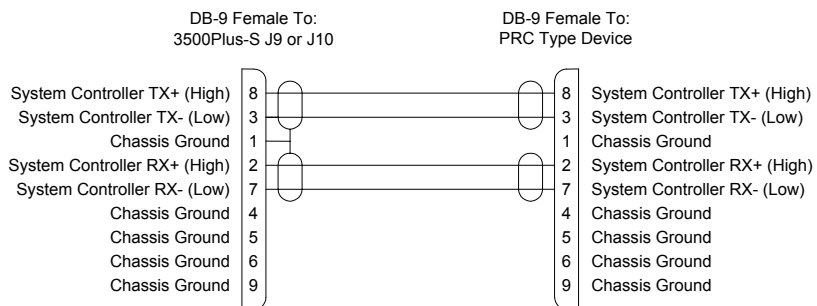

Figure 51. 3500Pro-D RS-422 Serial Cable
- COM 3/PRC is the communications interface to a PRC type routing switcher system and is connected to a routing switcher. If necessary, a cable up to 4000 feet in length may be fabricated in the field as shown in Figure 51. It contains the same physical connections as in 5 pin PRC connector.